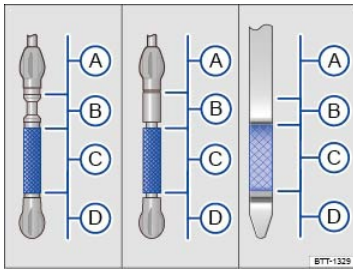

Fig. 198 Engine oil dipstick with oil level marks.
Do not start the engine if the engine oil level is in range \Rightarrow Fig. 198^A. Contact an authorized Volkswagen dealer or an authorized Volkswagen Service Facility. Otherwise the catalytic converter and engine can be damaged!
⇒ Fig. 198	Required action according to the respective engine oil level:
- Do not start the engine if the engine oil level is in range ⇒ Fig. 198 ʌ. Contact an authorized Volkswagen dealer or an authorized Volkswagen Service Facility. Otherwise the catalytic converter and engine can be damaged!
✿ The engine oil level should never be in range ⇒ Fig. 198 ʌ. Otherwise oil can be drawn in by the crankcase ventilation system and enter the atmosphere via the exhaust system.